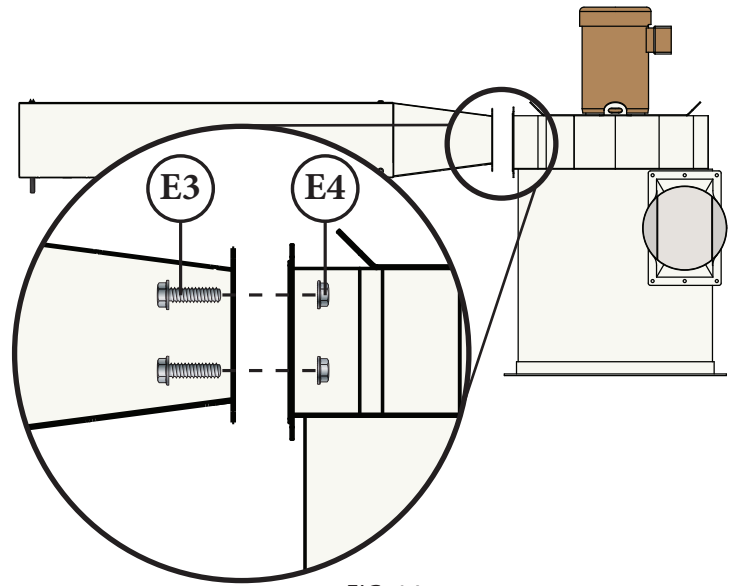

FIG. 14
Rotate the Plenum Assembly (F) to its upright position and attach it to the outlet of the Fan Blower Assembly (A) with four 5/16"-18 x 1.25" Bolts (E3), and four 5/16" Whiz-Lock Nuts (E4) as shown in [FIG. 14].